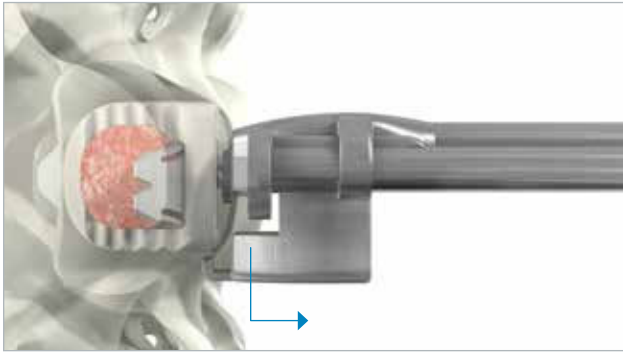

Figure 18
- Remove the implant holder by turning the knob on the end of the holder counter-clockwise until the threads disengage and the inner threaded rod can be removed from the inserter. Slide the holder to the left releasing the hook from the slot in the implant before removing the holder from the wound (Figure 18).